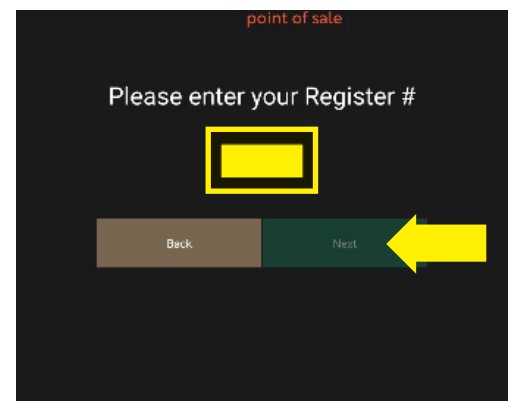

Figure 25
10. Enter a register number. Number them sequentially: 1, 2, 3 etc (Figure 25).